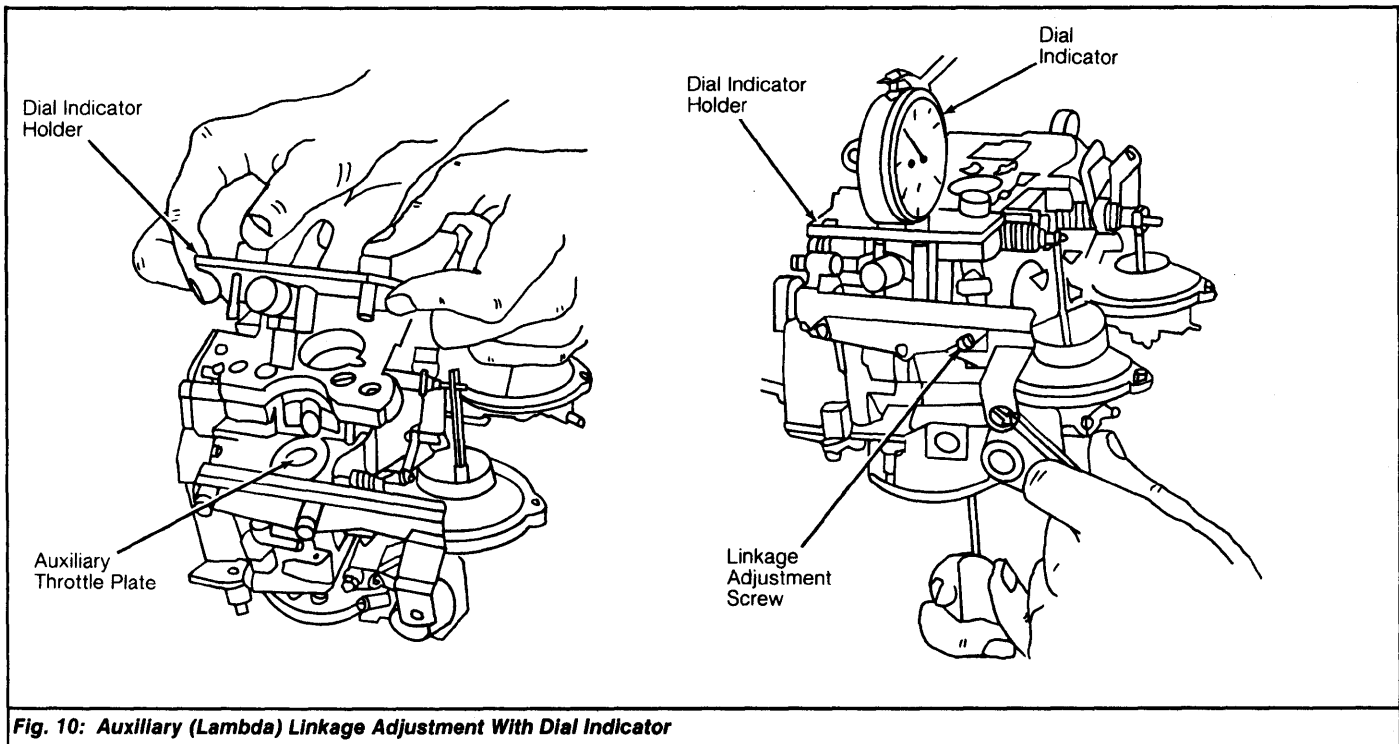

Fig. 10: Auxiliary (Lambda) Linkage Adjustment With Dial Indicator
3) Zero dial indicator. Loosen adjustment screw until dial indicator has a reading of .004-.006" (.10-.15 mm). See Fig. 10. Tighten lock nut without changing position of adjustment screw. Readjust throttle stop screw when carburetor is installed on vehicle.